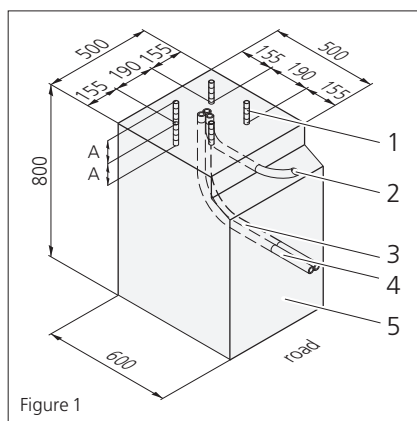
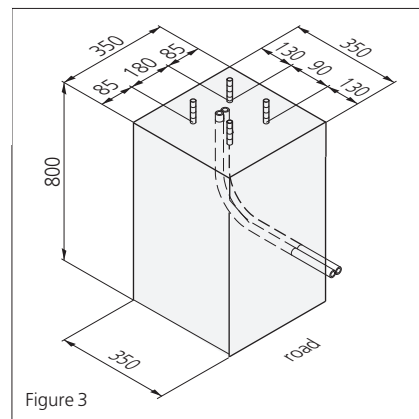

Figure 1
Figure 3
1. Excavate a hole for the foundation to frost-line depth (at least 800 mm). The dimensions of the foundations at the boom must be at least 500 mm x 600 mm for the MIB series barriers and MEC 10N/H/L control column (Figure 1) and 350 x 350 mm for the MEC 10M/E control column (Figure 3).
On the road side, the foundation is to be 100 mm larger at the bottom than the top (Figure 1).
2. Lay separate conduits of 29 mm diameter for the power supply and control lines. An additional conduit with of 29 mm diameter is to be inserted at road level for loops (Figure 1).
5. Drill the bore holes for the anchor bolts in accordance with the layout plan when the concrete has hardened sufficiently. For the MIB barriers, MEC control column, bore hole $\varnothing 10 \text{ mm}$, $A = 80 \text{ mm}$ deep (Figure 1).
6. Set the appropriate anchor bolts into the bore holes (Figure 1) and assemble the barrier housing in accordance with the assembly instructions: